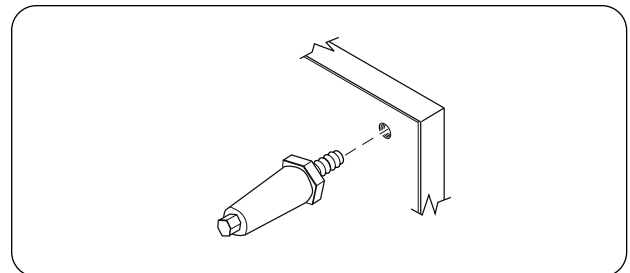

Figure 5. Leg Installation
5. Carefully lay unit on its side and install the four legs. Return unit upright. (See Figure 5.)